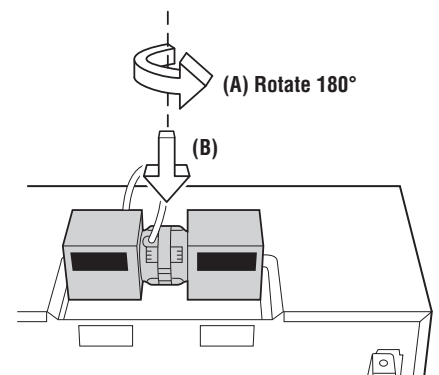

Figure 10
3. Rotate the Hood Fan Unit 180° so that the fan blade openings are facing the back of the oven. Note, you will need to lift the wire over the hood fan unit so the wire will clear. See Figure 10 (A). Replace Hood Fan Unit into the oven. Be careful not to pinch the wire and the Hood Fan Unit. See Figure 10 (B).